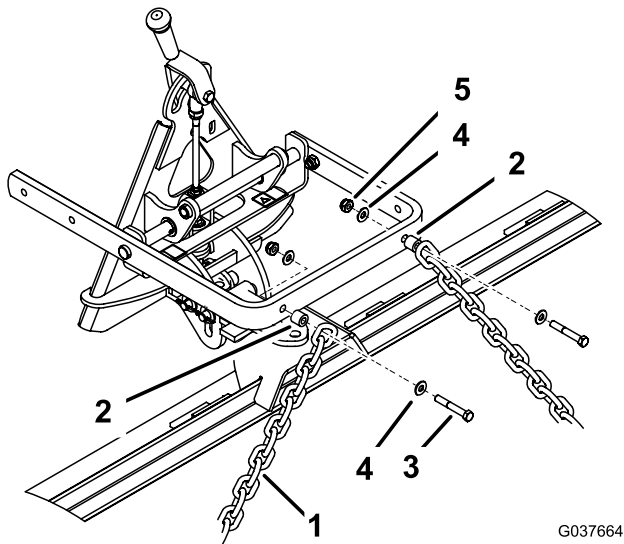

Figure 4
2. Secure the top link of each chain to the back of the lift arm using a bolt (3/8 x 2-1/2 inches), 2 washers (3/8 x 7/8 inch), a spacer, and a locknut (3/8 inch); refer to Figure 4.